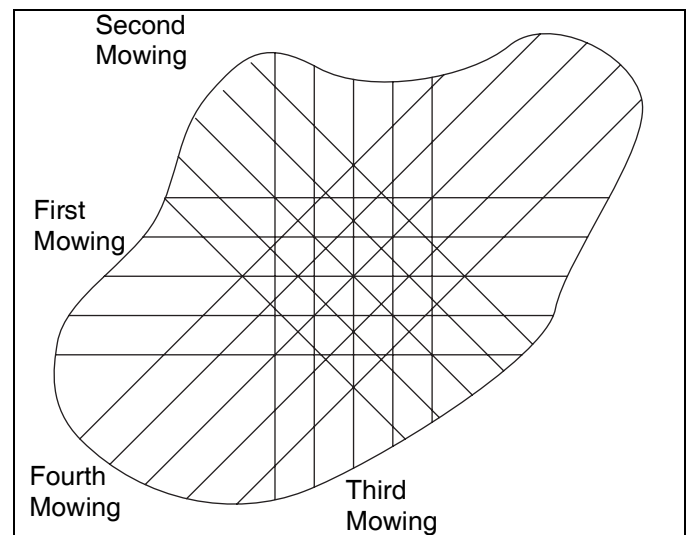

Figure 5D
5. For a more even playing surface and neater appearance, alter the mowing pattern each time a green is mowed. The patterns shown in **Figure 5D** are suggestions only, the operator or course superintendant can arrange patterns to suit each green.